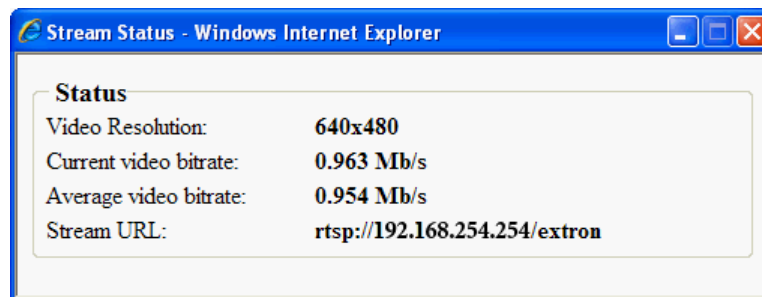

Figure 71. Stream Status Window
- ②e **Input select button** — This button allows the user to switch between live streams. Clicking on this button toggles through the inputs in sequence. Hovering over the button displays the currently selected input.
- ②f **View status button** — This button is used to view the status of the stream. When this button is pressed, a window appears that provides the video resolution, current video bit rate, average video bit rate, and the stream URL (see figure 71).